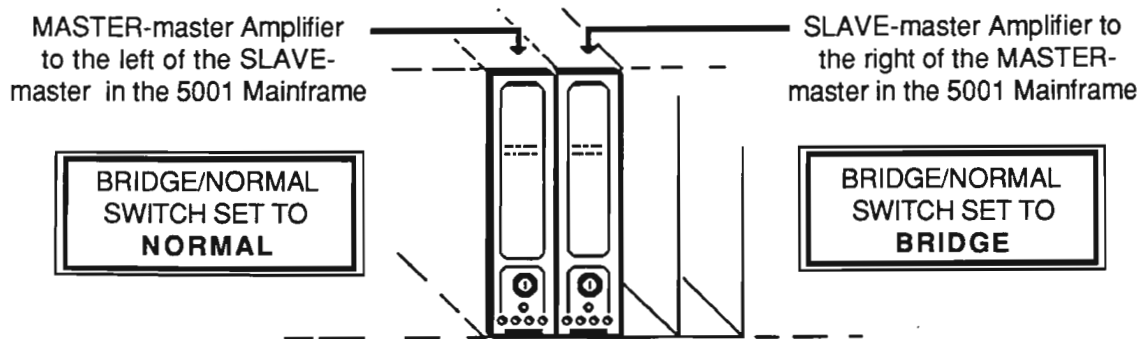

Figure 6
4. Connect the load across the two plus (+) terminals of the two amplifiers. **Do not** connect anything to the two minus (-) terminals. Figures 6 and 7 on the following page detail these steps.